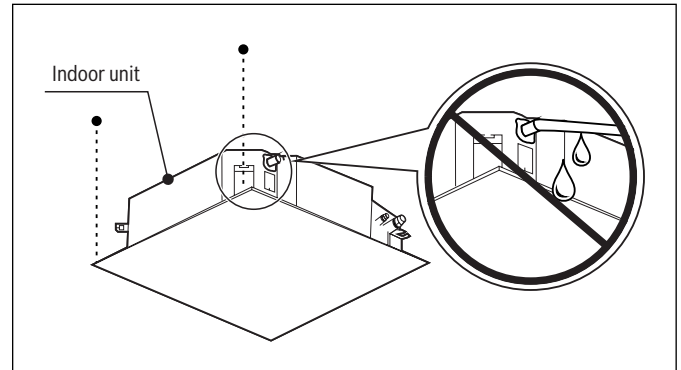

Figure 12
- g. Additionally, Ensure the condensate discharge pipe is not slanted so the float switch function properly (see Figure 12).